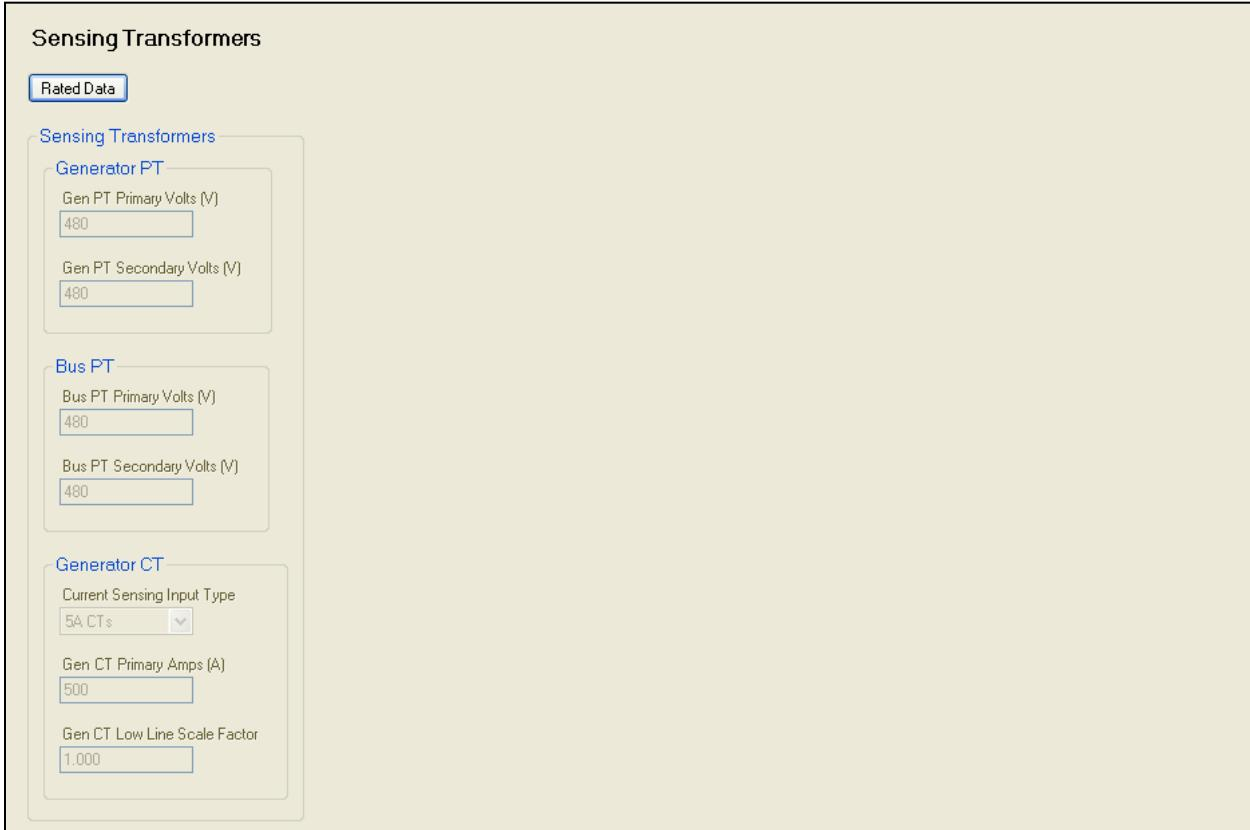

Figure 6-26. Settings Explorer, System Parameters, Sensing Transformers Screen
- e. Sensing Transformers (Figure 6-26) Note: Click the *Rated Data* button to make changes.
- Generator PT Primary Volts - This parameter defines the voltage of the potential transformer (PT) primary. If no PT is used, leave this parameter at its default value.
- Generator PT Secondary Volts - This setting defines the voltage of the potential transformer (PT) secondary. The parameter must be less than 576 Vac because that is the maximum voltage that can be metered by the DGC-2020 voltage inputs. If no PT is used, leave this parameter at its default value.
- Bus PT Primary Volts - This parameter defines the voltage of the potential transformer (PT) primary. If no PT is used, leave this parameter at its default value.
- Bus PT Secondary Volts - This parameter defines the voltage of the potential transformer (PT) secondary. This must be less than 576 Vac because that is the maximum voltage that can be metered by the DGC-2020 voltage inputs. If no PT is used, leave this parameter at its default value.
- Generator CT Primary Amps - This parameter defines the current transformer (CT) primary current in amps. The secondary must be 1A or 5A, and is determined by the DGC-2020 configuration as indicated in the DGC-2020 style code.